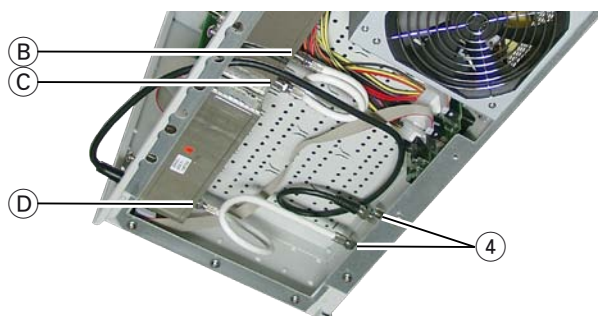

Fig. 5
- Connect input (D) of the SAT IF input distributor with one of the pre-installed F terminals (4) in the rear wall of the head-end station (fig. 5) using a HF cable made on-site (length approx. 30 cm).
- Connect the loop-through output (C) with input (B) using a HF cable made on-site (length approx. 30 cm).